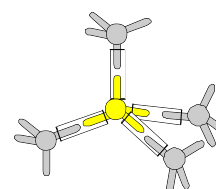

Fig. 9 Anion C.N. 4.
10. Surround one sulfide with four zinc ions to form a separate model to show the anion coordination number of four. (Fig. 9)